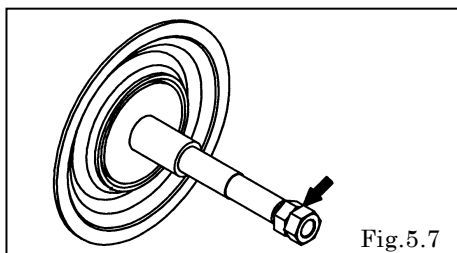

Fig.5.7
- Remove the other center disk using the double-nut method. Then, remove the center disk, diaphragm and center bushing. [Fig.5.7]